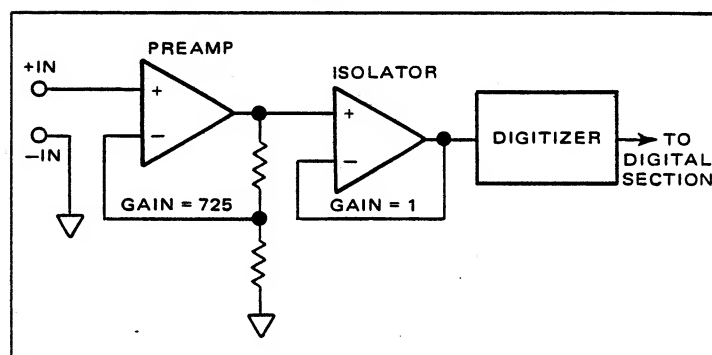

Figure 5.7 - 10 Millivolt DC Range
5.3.4.3.7 *10 Millivolt Range (Option 41).* The signal from the +IN terminal is routed through the contacts of the 10 mV and Preamplifier Select relays to the positive input of the Preamplifier. The filtered output of the Preamplifier is fed through contacts of the Preamplifier Select and .1+1 relays to the positive input of the Isolator. The unfiltered output of the Preamplifier is fed through contacts of the Preamplifier Select relay to the Gain Resistor string. A feedback signal from the Gain Resistor string is applied to the negative input of the Preamplifier (through the contacts of the Preamplifier Select relay) to obtain a Preamplifier gain of 725. The Isolator output is fed back directly to the negative input (through the normally closed contacts of the .1+1 relay) to obtain a closed loop gain of 1.0. The -IN terminal is connected to analog common through contacts of the Ohms relay. A simplified block diagram is shown in Figure 5.7.